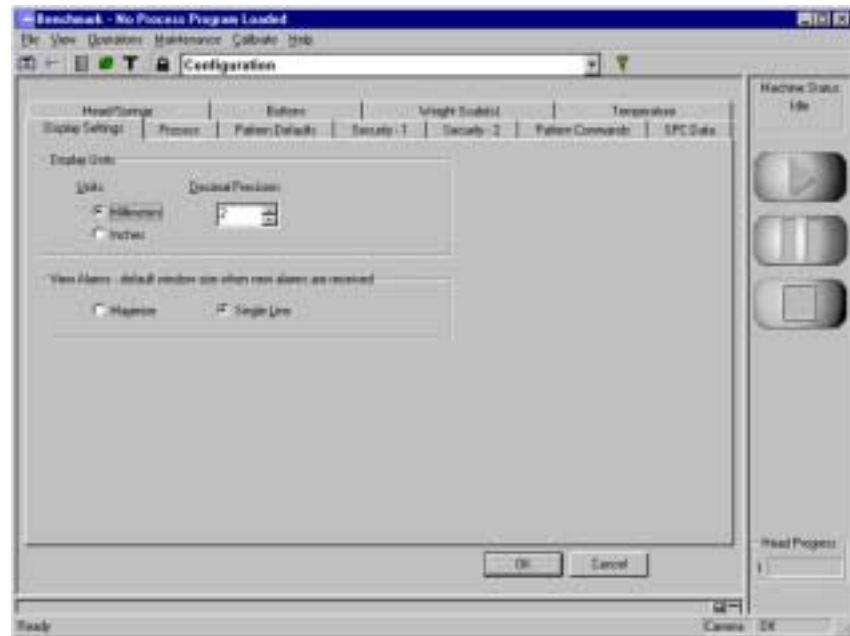

Figure 2-2
2. Select the **Display Settings** tab. The Display Settings Configuration view appears. See Figure 2-2.